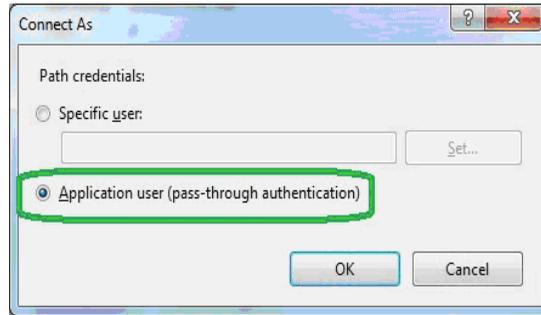

FIGURE 2-8 Connect As - Application User (pass through authentication)
Step 12 In the **Connect As** dialog box, select the **Application user (pass-through authentication)** option and click **OK**, as shown in FIGURE 2-8.